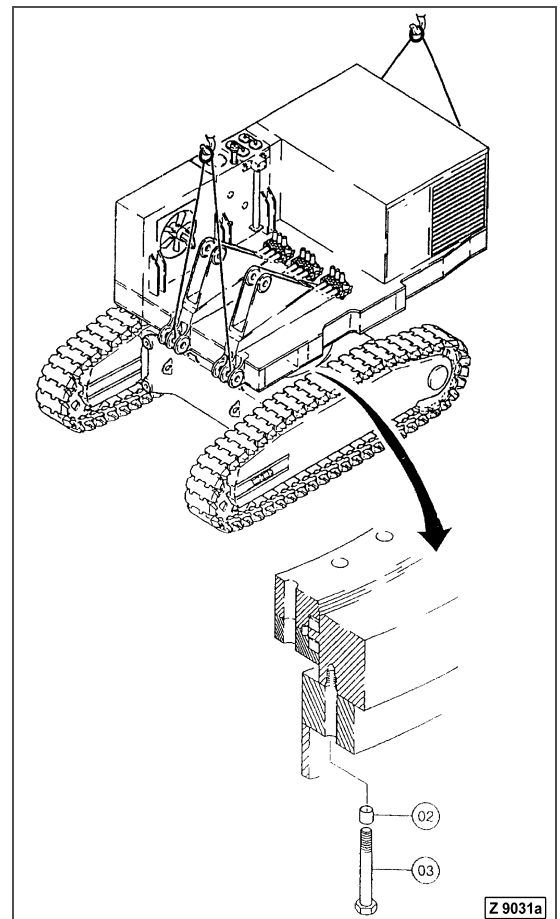

Fig. 3-235
- Insert 4 bolts (Fig. 3-235, Pos. 3) with resilient sleeves (Fig. 3-235, Pos. 2) displaced by 90° and lower the superstructure.